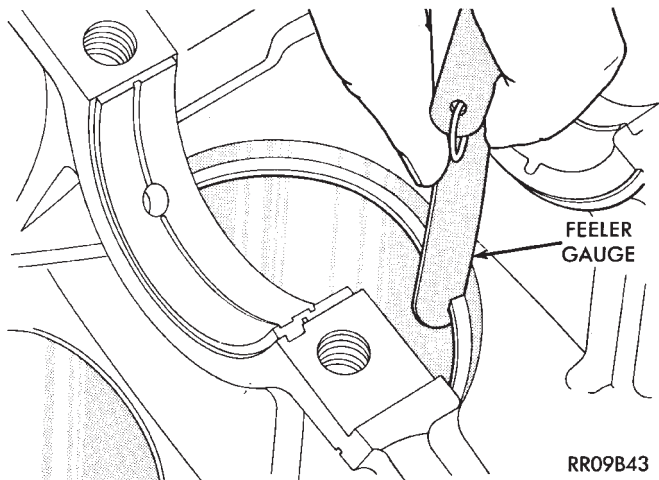

Fig. 9 Piston Ring Gap
- (1) Wipe cylinder bore clean. Insert ring and push down with piston to ensure it is square in bore. The ring gap measurement must be made with the ring positioning at least 12mm (.50 inch) from bottom of cylinder bore. Check gap with feeler gauge (Fig. 9).